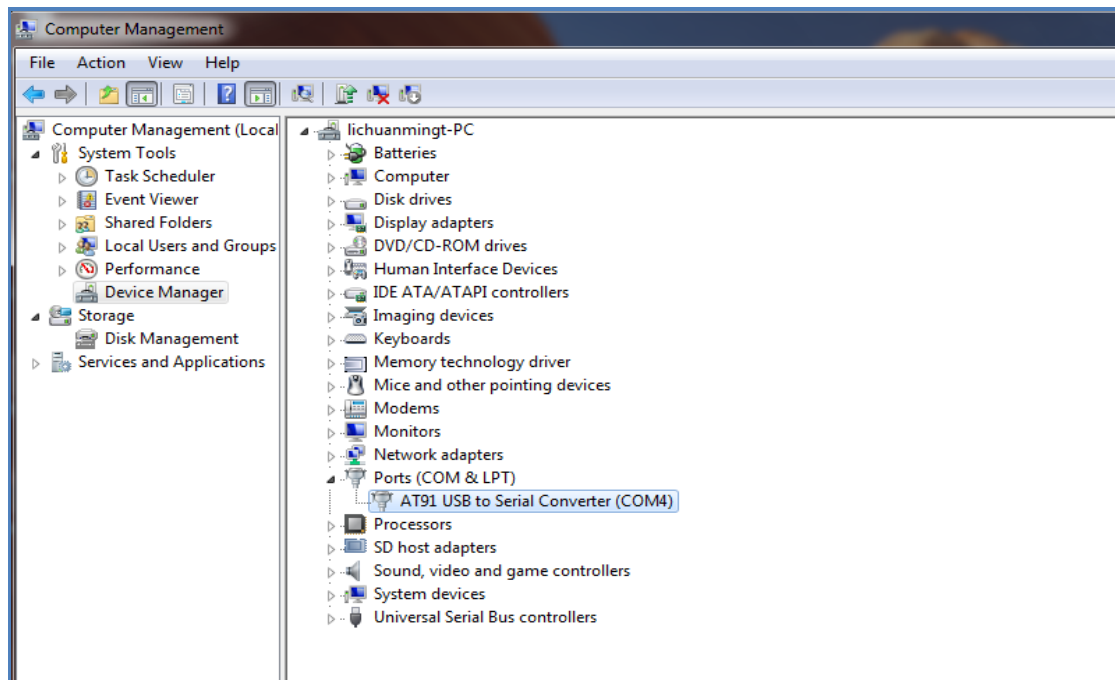

Figure 4-3
- (2) If the serial interface as shown in Figure 4-3 "my